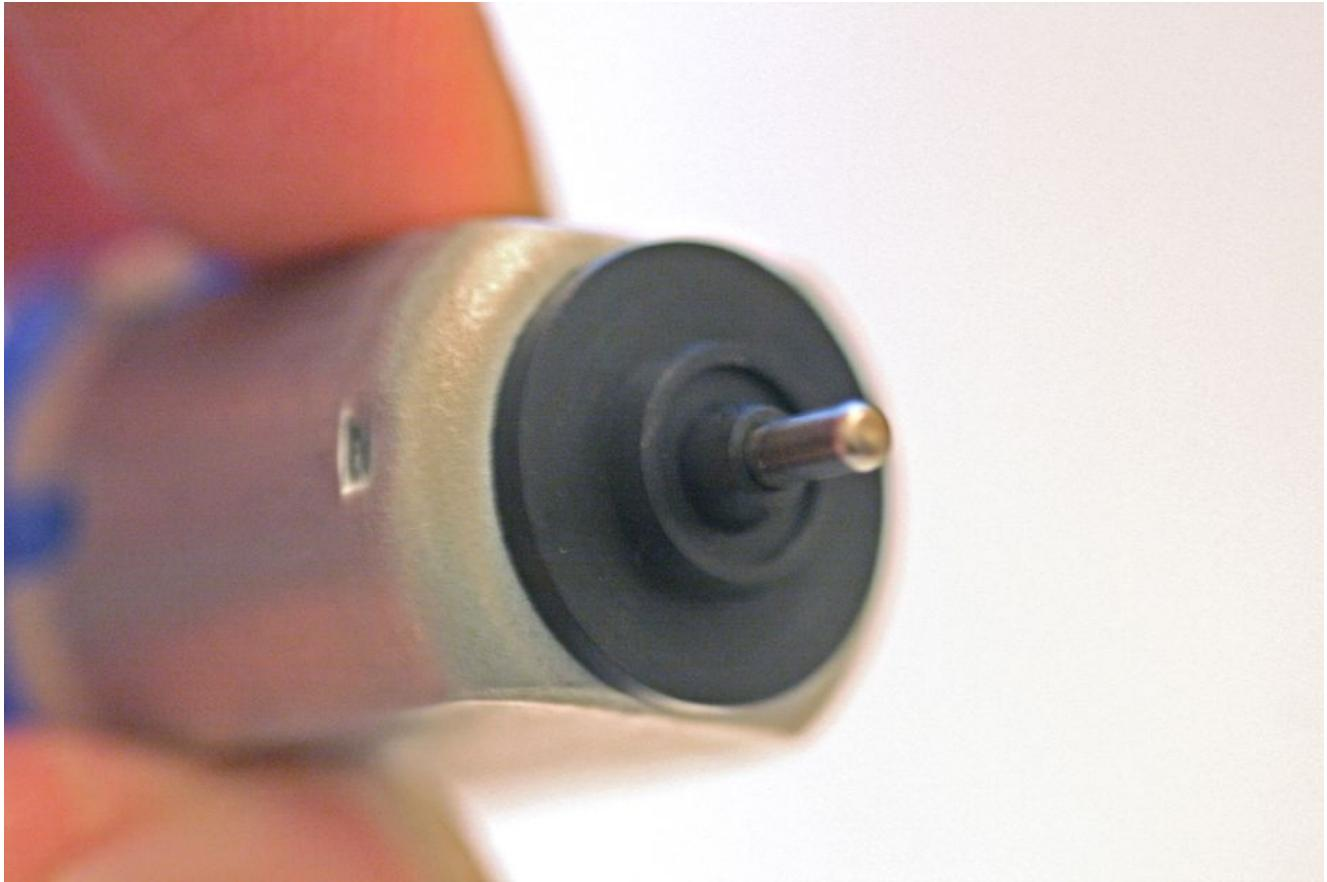

Figure 3-7. Insulating rubber ring
3. Place the rubber ring over the spindle end of the motor, with the flat end of the ring against the body of the motor, as shown in Figure 3-7.